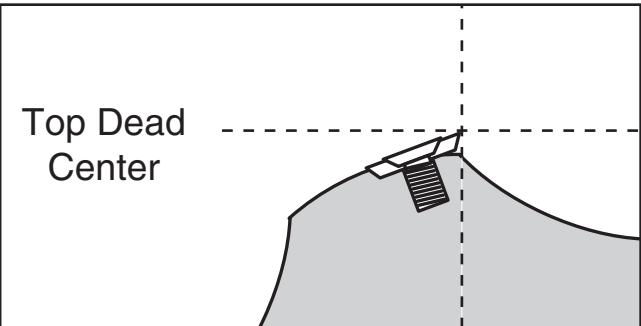

Figure 43. Cutter insert at top dead center.
- 3. Use the cutterhead pulley to rotate the cutterhead until one of the cutter edges at the front end of the cutterhead is at the highest point of rotation or top dead center (see **Figure 43**).
6. Use the cutterhead pulley to rotate the cutterhead until one of the cutter edges at the front end of the cutterhead is at the highest point of rotation or top dead center (see **Figure 43**).